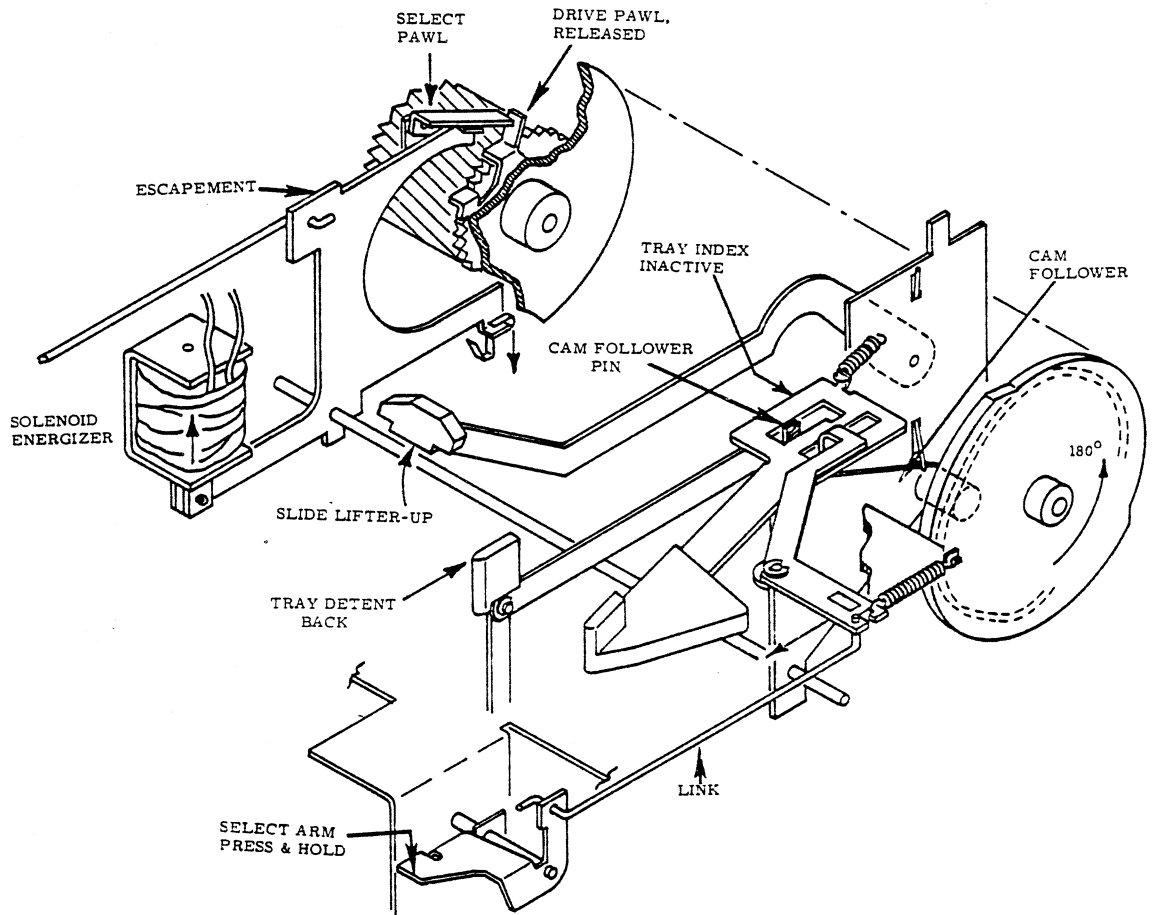

Figure 1-4. Select Operation. (Hold Position).
b. Mechanical (Figure 1-4). Mechanically, two events occur and at the same time. The solenoid is energized which pulls the escapement allowing the select pawl to drop. The select pawl will now catch the drive pawl, after the cams rotate 180° , and hold it released as long as the select button switch is closed to energize the solenoid.